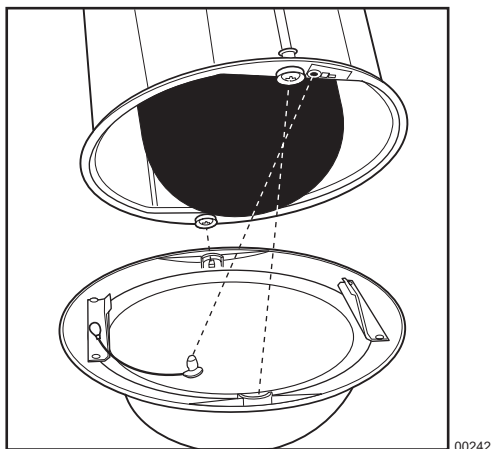

Figure 1. Lower Dome Installation, In-Ceiling Models
1. Refer to Figure 1. Snap the clip on the end of the trim ring leash into the hole on the lip of the back box next to one of the mounting screws.